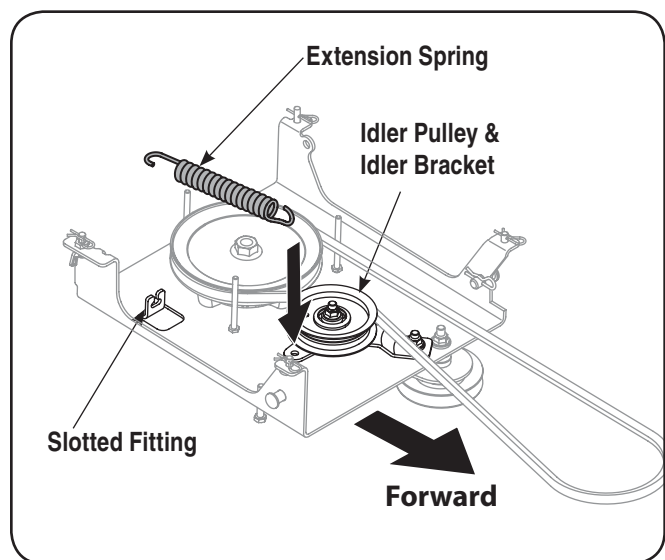

Figure 3-1
1. Attach one end of the extension spring (732-0594A) to the hole in the idler assembly. Mount the opposite end of the extension spring to the slotted fitting as illustrated in Fig. 3-1.